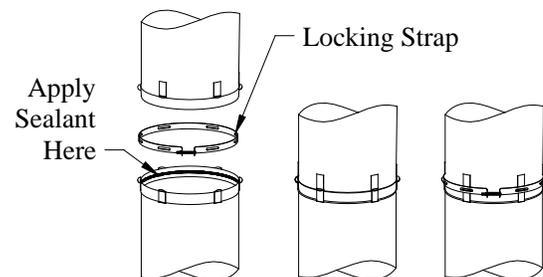

Fig 5B. (Locking Strap Joint)
- Remove the Locking Strap from the Vent (See Fig.5B)
- Smooth down the bead with a flat instrument or moistened finger (See Fig. 5B).
8. socket. CAUTION: DO NOT over tighten the clamp as it may cause the vent to collapse (See Fig 5B).